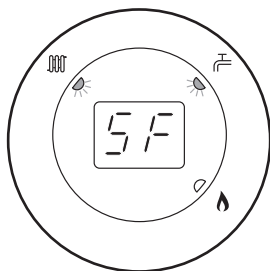

Fig. 39
4. The display will now alternate between 'SF' and the current boiler temperature and both green LEDs will flash (Figs. 39 & 40).